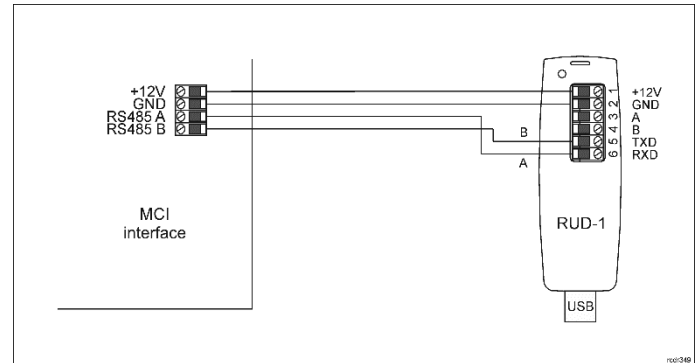

Fig. 2 Connection of the MCI-3 to RUD-1 interface for firmware update
The update requires connection of MCI-3 to computer with RUD-1 interface (fig. 2) and starting RogerVDM software. The latest firmware file is available at www.roger.pl.
1. Connect the device to RUD-1 interface (fig. 2) and connect the RUD-1 to computer's USB port.